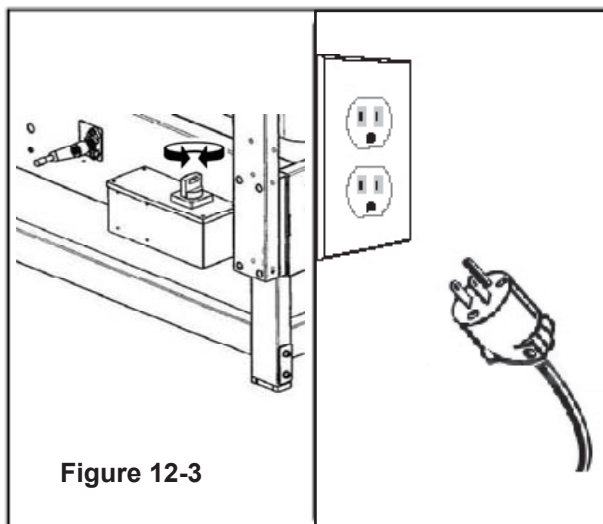

Figure 12-3
Turn the main rotary switch ON (I) after the EMERGENCY BUTTON is released (Figure 12-3).
Before carrying out any cleaning or maintenance operation stop the machine by turning the main rotary switch to OFF (0) and disconnect the electric power (Figure 12-3).